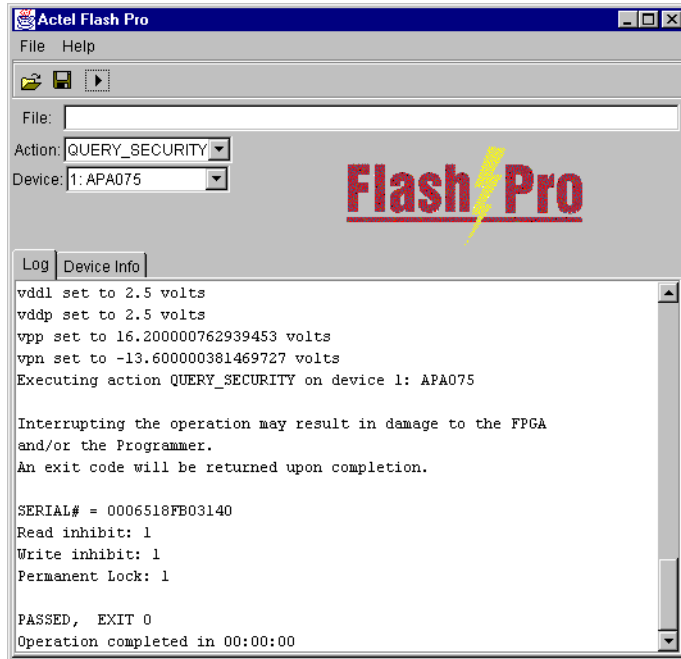

Figure 3-16. Query Results for the Permanently Locked Device
4. **Make your selections and click *Execute* to start programming.** The progress of the programming action is displayed in the Log window. The message 'Exit 0' indicates that the device has successfully been programmed as shown in Figure 3-16.